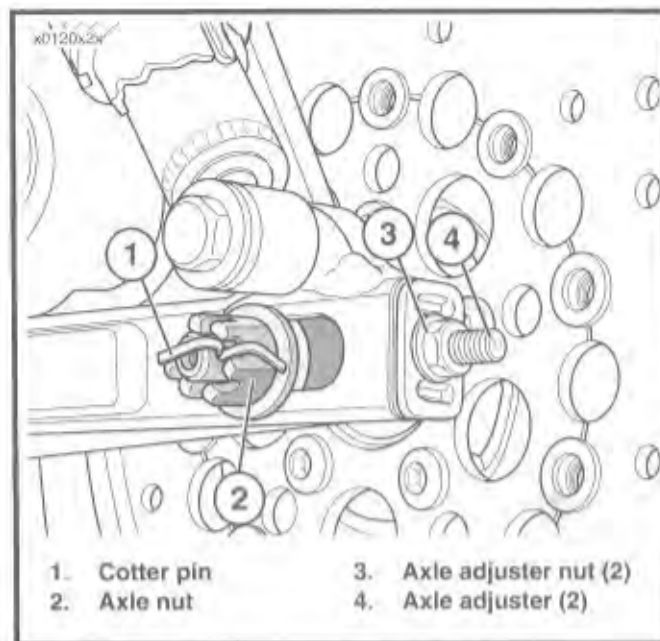

Figure 6-8. Secondary Drive Belt Adjustment
7. See Figure 6-8. Remove cotter pin (1) and loosen rear axle nut (2). Decrease belt tension by turning the axle adjuster nut (3) on each side of rear fork an equal number of turns counterclockwise.